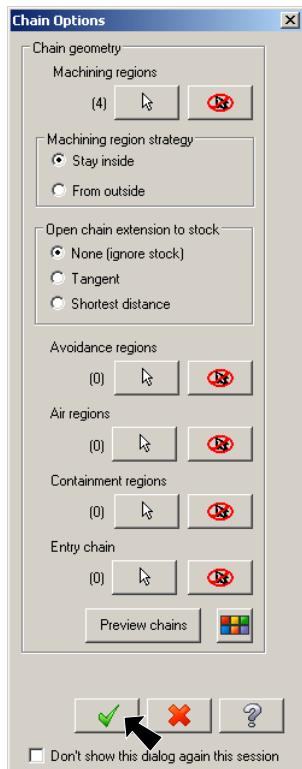

Fig. 44
Step 6. Click OK  in the Chain Options box, **Fig 44**.